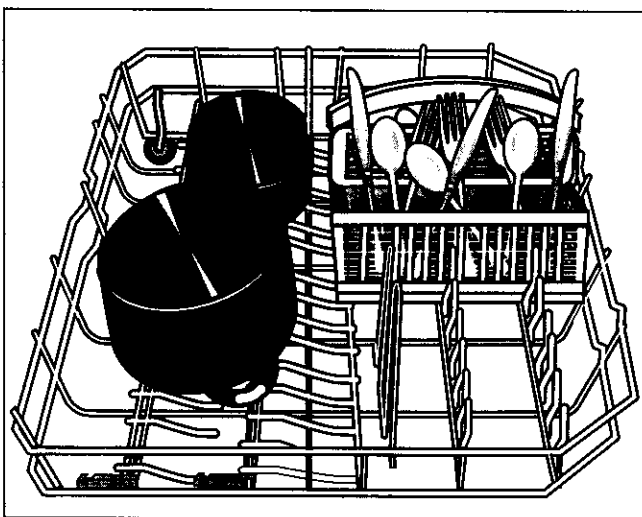

Figure 5.
- If more space is needed for pots and pans the rear two sets of tines can be folded to the down position on all models, or the rear three sets of tines on the DLX models. Figure 5 shows lower basket with two rear sets of tines in the down position to accommodate large pots.